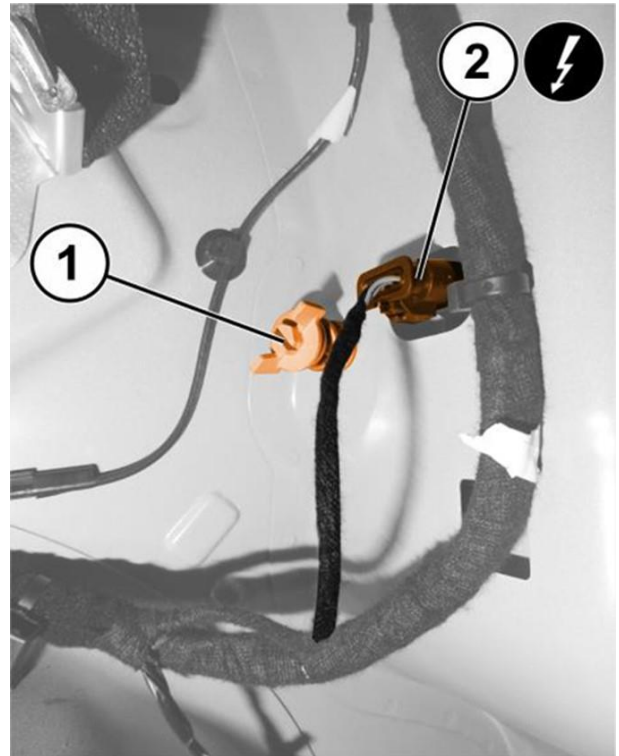

Figure 4 – Tail Lamp
6. Disconnect the wire harness connector (2) from both tail lamp assemblies (Figure 4).
7. Unscrew and remove the fastener (1) securing both tail lamp assemblies (Figure 4).
37. Secure both tail lamp assemblies by installing the fastener (1) (Figure 4).
38. Connect the wire harness connector (2) on both tail lamps (Figure 4).